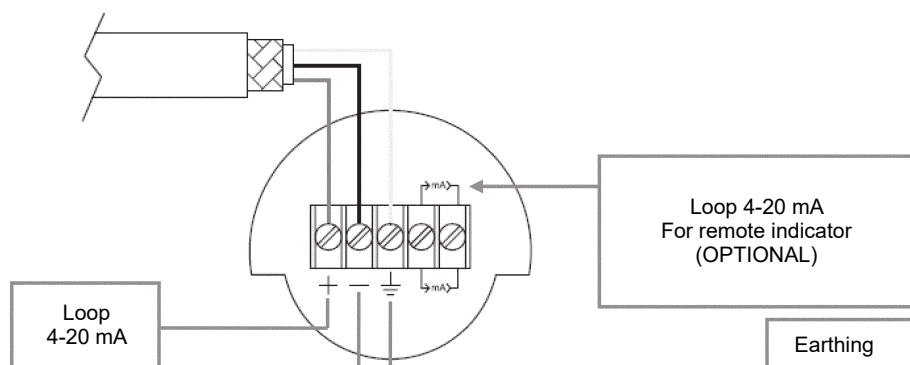

Fig. 3 - Electrical connection of the power cable to the terminal block
Under the rear cap is placed the terminal block reporting the electric polarity (Fig. 3). Insert the power supply cable into the enclosure through one of the two threaded openings. Transmitter is protected from accidental inversion of polarity. For a better use is recommended a twisted pair cable (22 AWG min). Avoid placing Transmitter near devices powered in AC or Switching. Connect ground-tap of the Transmitter to the local common earth (PE) as indicated in paragraph Earthing.
In the case where the plant devoid of earthing, it is necessary to connect the earth wire to the terminal block through the cable that carries the signal and the power supply (Fig. 3).